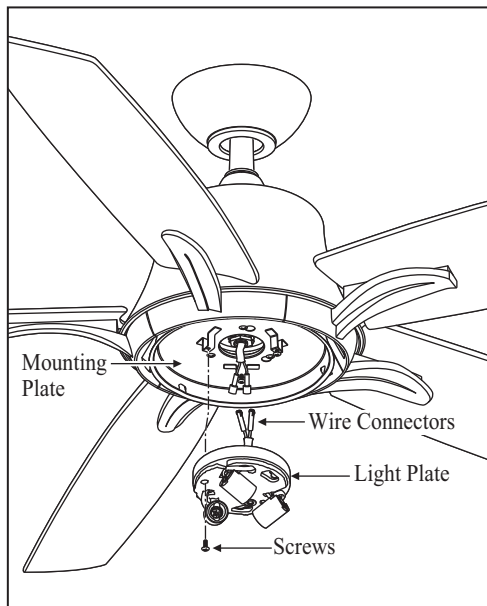

Figure 20
3. Place the key holes on the light plate over the 2 screws previously loosened, turn the light plate until it locks in place at the narrow section of the key holes. Secure by tightening the 2 screws previously loosened and the one previously removed. (Fig. 20)